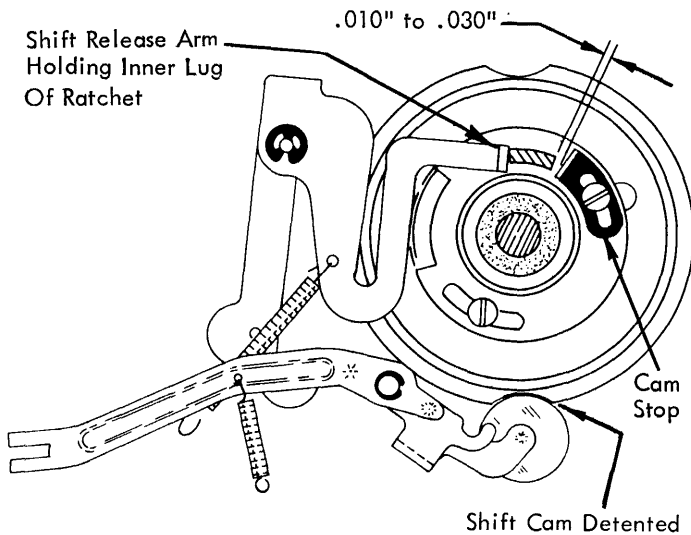

FIGURE 68. Shift Cam Stop Adjustment
3. **Shift Cam Stop** - Adjust the stop so that the shift clutch ratchet has $.010''$ to $.030''$ rotary motion between the shift cam stop and the shift release arm with the mechanism at rest (Fig. 68).